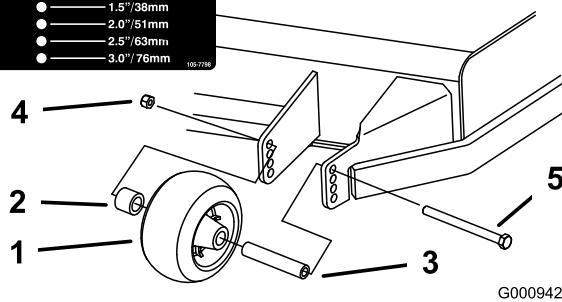
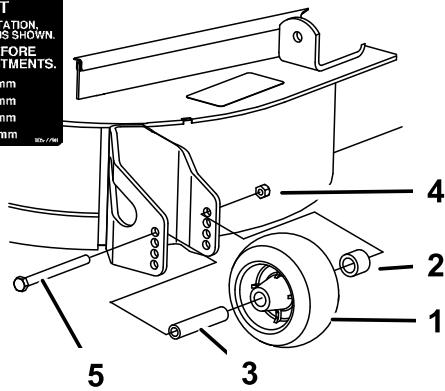

Figure 17
Figure 19
3. After adjusting the height-of-cut, adjust the rollers by removing the flange nut, bushing, spacer, and bolt (Figure 17, Figure 18 and Figure 19).
5. Install the flange nut bushing, spacer, and bolt. Torque to 40-45 ft-lb (54-61 N-m) (Figure 17, Figure 18 and Figure 19).